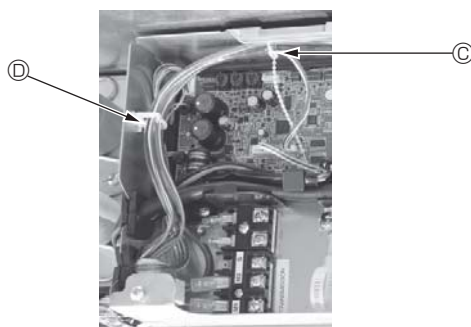

Fig. 6-15
- Place the excess portions of the i-See sensor and signal receiver junction wires in the electric component box in the wire clip as shown in the diagram, and secure the wires together with the fastener. (Fig. 6-15)